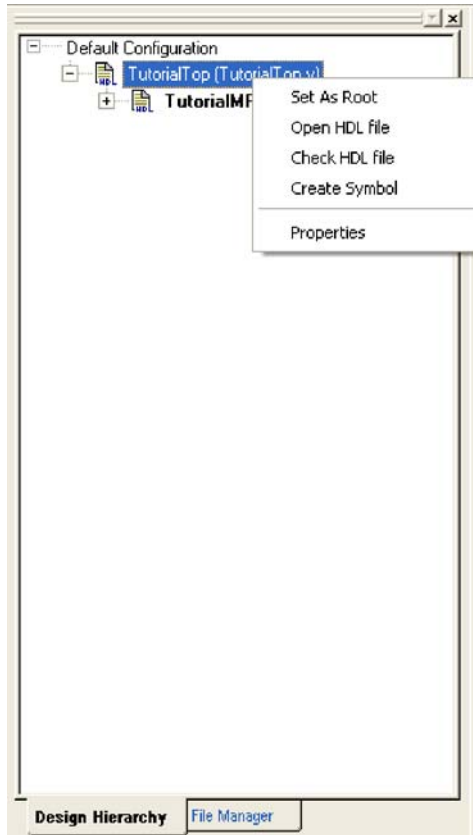

Figure 5-23. Libero IDE Design Hierarchy Viewer
3. From the **Design Hierarchy**, right-click the *TutorialTop.v* file and select **Set as Root** (see Figure 5-23). This sets the project's top-level file to the module contained in the source file just imported.